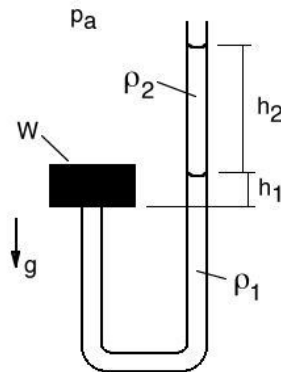

Figure P2.14
2.14 A manometer of constant cross-sectional area A contains two fluids of density ρ_1 and ρ_2 , as shown in Figure P2.14. One end of the manometer is closed by a weight W , and the other end is open to atmospheric pressure p_a . Find W in terms of ρ_1 , ρ_2 , h_1 , h_2 , g , and A when h_2 is large enough to be on the point of lifting up the weight.